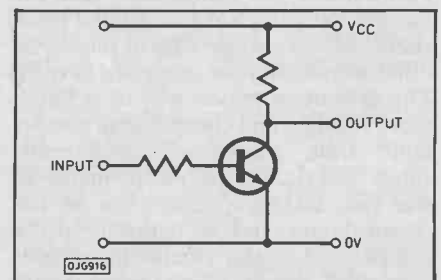

Fig.15 See question 5
- What logical operation is performed by the gate in Fig.15?